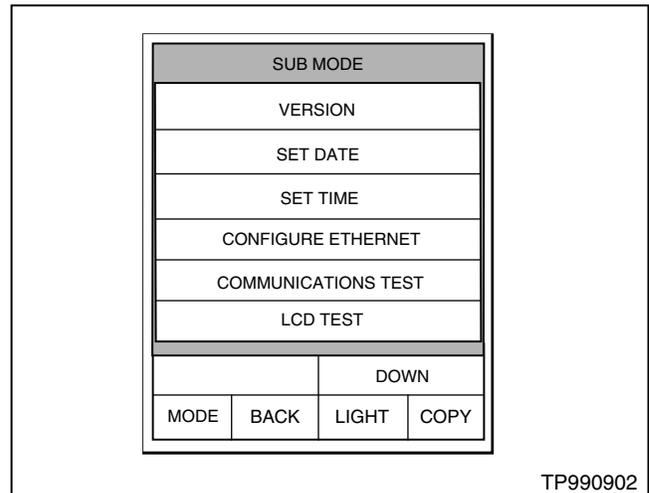

Figure A2
B. Touch "**SUB MODE**" (see Figure A2).